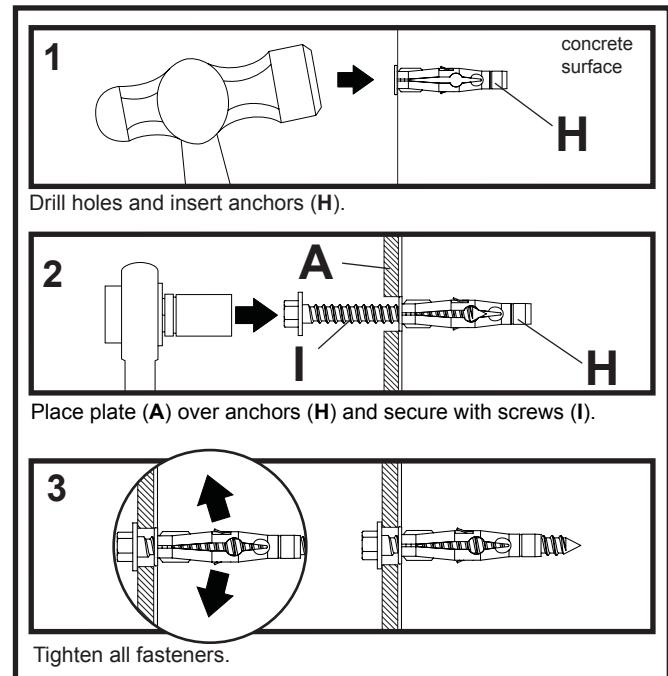

Fig. 1.1
1 Make sure that wall plate (A) is level, use it as a template to mark nine mounting holes. Drill nine 5/16" (8 mm) dia. holes to a minimum depth of 2.5" (64 mm). Insert anchors (H) in holes flush with wall as shown in figure 1.1. Place wall plate over anchors and secure with nine #14 x 2.5" screws (I). Level, then tighten all fasteners as shown in fig. 1.2.